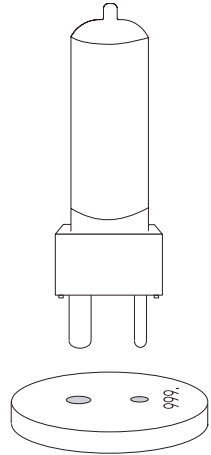

Figure 2
3. **Holding the new lamp by its ceramic base** (do not touch the glass), align the pins as shown in Figure 2 so that the small pin goes in the small hole. Insert the lamp firmly and squarely into the socket and ensure that all 4 small projections on the ceramic base touch the face of the socket.